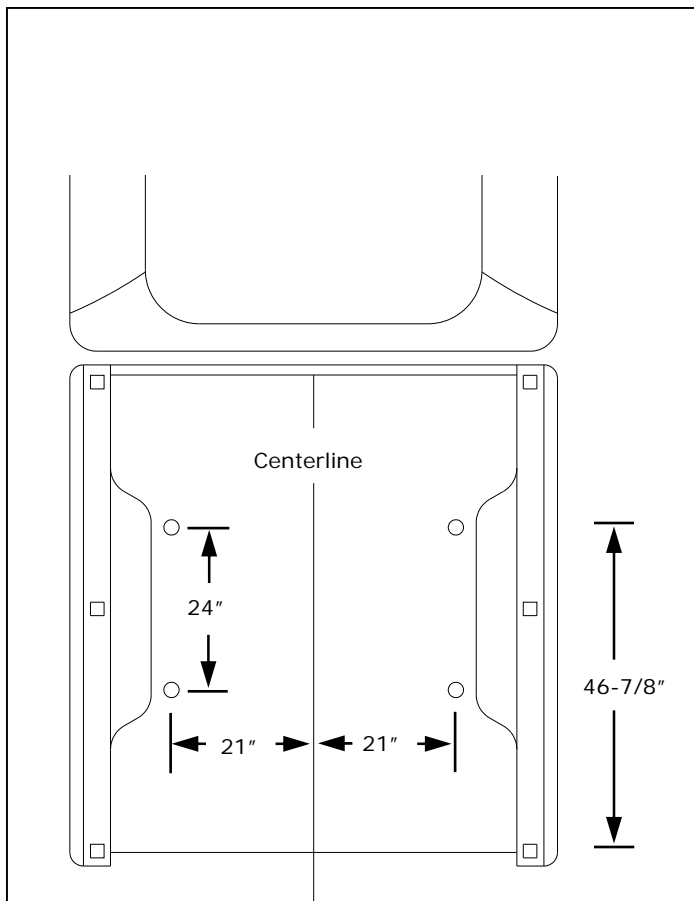

Figure 3
1. See figure 3. Measure and mark from the back of the bed forward 46-7/8". Do this at any point on both sides of the bed.
5. Find the centerline of the bed. Draw a line down the middle of the bed from front to rear. See Figure 3.